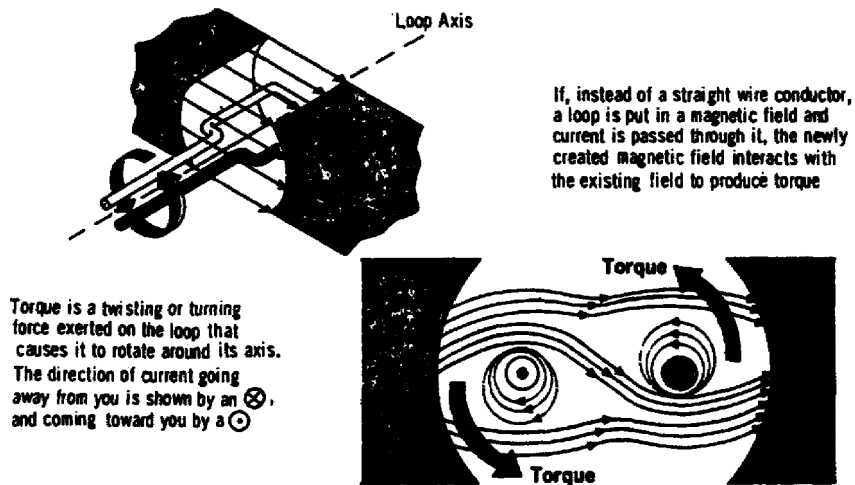

Figure 1. Loop in magnetic field.
e. Now, let's bend a wire to form a loop and place the loop in a magnetic field (fig 1). Nothing happens until we send current through the loop. If we send current flowing through the loop in the direction shown, the magnet's lines of force push up on the right side of the loop and down on the left side. This produces the torque to rotate the entire loop counterclockwise (to the left). Actually, the loop would probably move only 1/4 of a revolution (90°) because it would be out of the magnetic field of the magnet. The loop would then be straight up and down instead of straight across as shown.